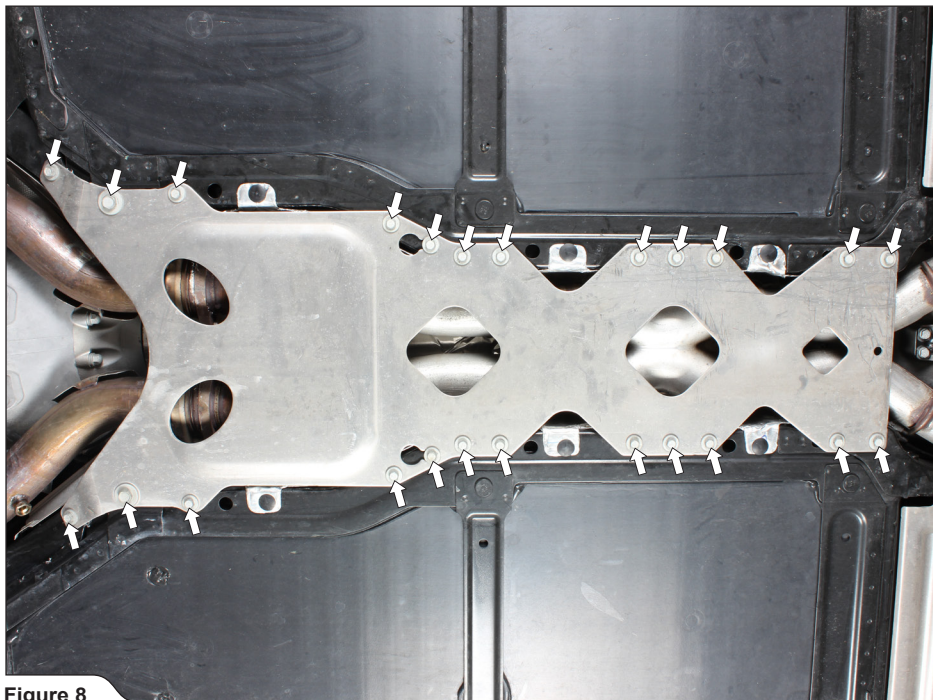

Figure 8
8. Unscrew and remove the chassis reinforcement (**Figure 8**).